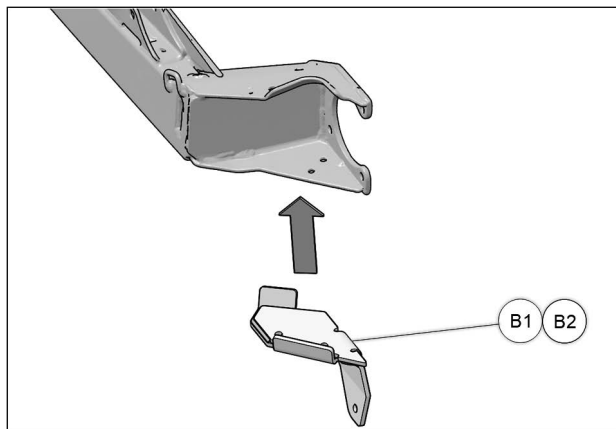

Fig. 4
4. Position anchor bracket (**B1-B2**) under rear suspension trailing arm, behind wheel hub. See Fig. 4